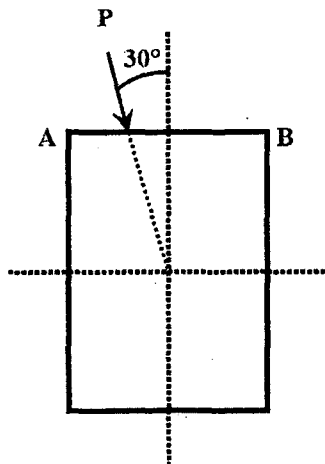

Fig. Q3a
3. a) A simply supported beam of rectangular cross-section 30 mm wide, 50 mm deep and 2.4 m long is subjected to a load of $P = 200$ N at the mid span of the beam as shown in Fig. Q3a. Determine the resultant bending stresses at the corners A and B. Also show the neutral axis.